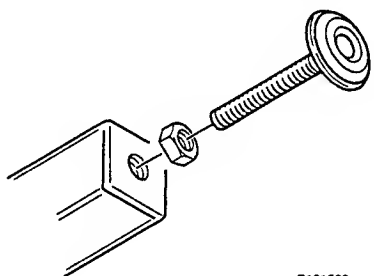

FIGURE 7: INSTALLING LEVELER ON LEG
8) Install the hex nut half-way up on each leveler. Install leveler with nut onto each leg (see figure 7).